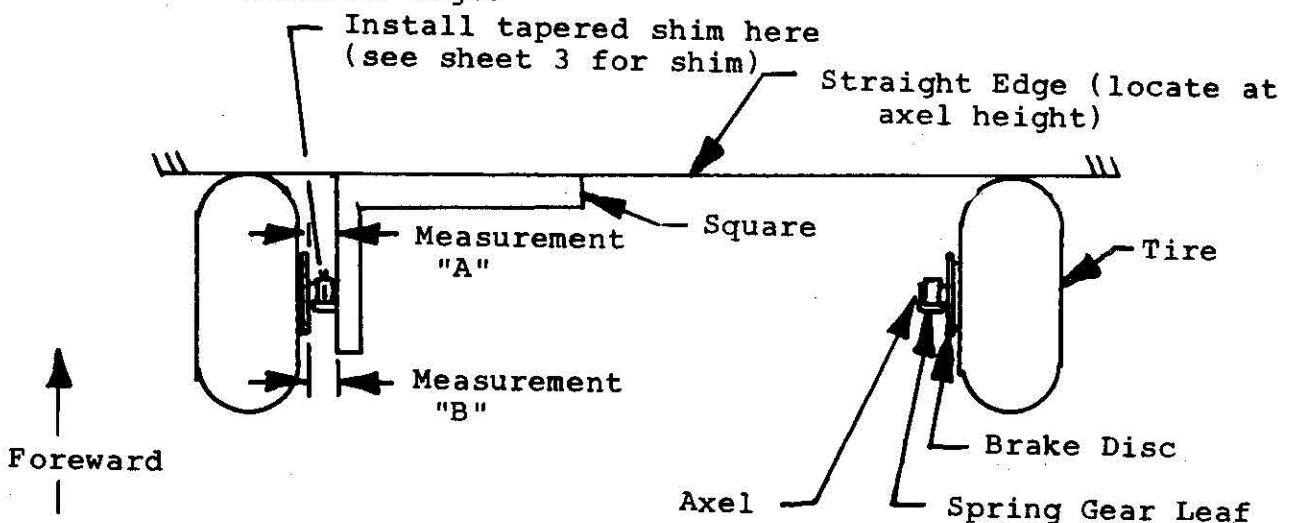

Figure 1 VIEW LOOKING DOWN
1. As shown in Figure 1, check alignment by placing a straight edge across the front of both main gear tires at axel height (both tire air pressures to be equal). See "Note" on page 2.
2. Hold a square against this straight edge and against the inboard end of the axel, measure the distance between the square and the inboard surface of the brake disc at (2) places (the extreme forward and aft edges) on both gear.